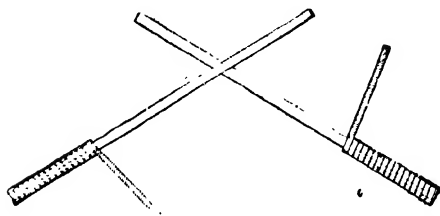
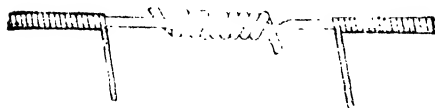
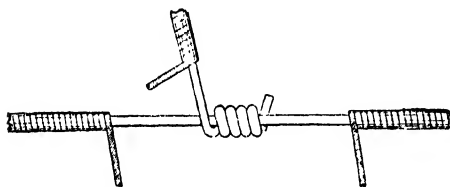

Fig. 302.—Crossed Ends of Electric Bell Wires.
Fig. 303.—Joint in Electric Bell Wires.
Fig. 305.—Branch Joint in Electric Bell Wires.
**Electric Bell Wires, Jointing.**—The form of joint for electrical wirework is very important. The ends of the line-wires to form the joint must be made quite clean by first stripping off all the insulating covering, and then rubbing the bare wires with emery-cloth. The two cleaned ends must be rubbed with resin and coated with solder, then crossed, as shown by Fig. 302, the left-hand end being wound tightly around the wire to the left, and the right-hand end to the right, as shown by the finished joint (Fig. 303). A little resin or candle grease is then rubbed on the joint, an assistant
end of the branch wire, and wind it around the line-wire as shown at Fig. 305. When the joint is made, squeeze the spirals close with the pliers, and cut off the free end close to the wire. Fig. 306 represents a joint often employed in ordinary bell-fitting; it is useless because it soon corrodes, and from the first offers a high resistance. Fig. 307 represents a slovenly made joint, which will not be effective, even when twisted tighter than shown. After the joints have been soldered, wiped, and trimmed, it will be evident that as the line has been stripped of its insulation at these points, it will thus be exposed to the danger of leakage. The insulation must therefore be restored. If the outside layer of cotton has been stripped back by unwinding it, as shown in Figs. 302 and 303, the loose ends will be available as an outer or finish coat only. In braided wires this cannot be done. The inner coats in all cases will have been destroyed, and these must be renewed. These repairs were formerly done with tape and a varnish called "Chatterton's compound"; but they are now done with rubber strip  $\frac{1}{2}$  in. in width, rubber solution, and compounded tape. The rubber and compounded tape should be rolled on a reel. To repair the insulation of a joint, first wind on an even lap of the rubber, and coat it evenly with